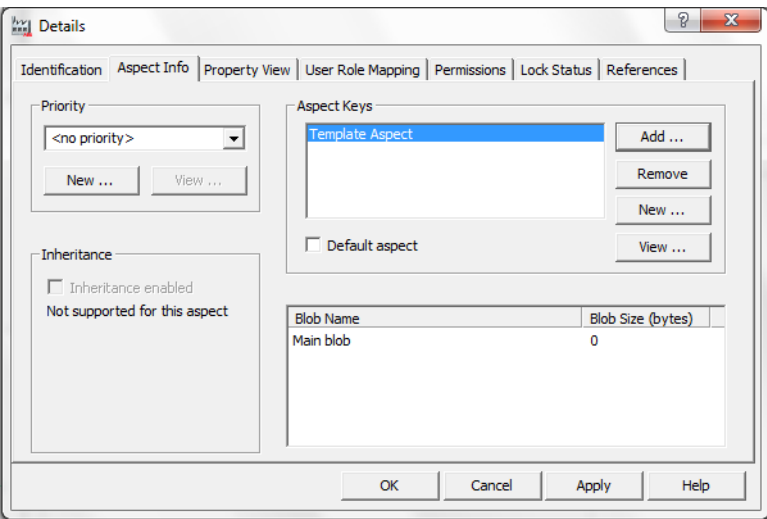

Figure 233. The Aspect Details Tab
7. Add a **Template Aspect** key and click **OK**, see Figure 233.